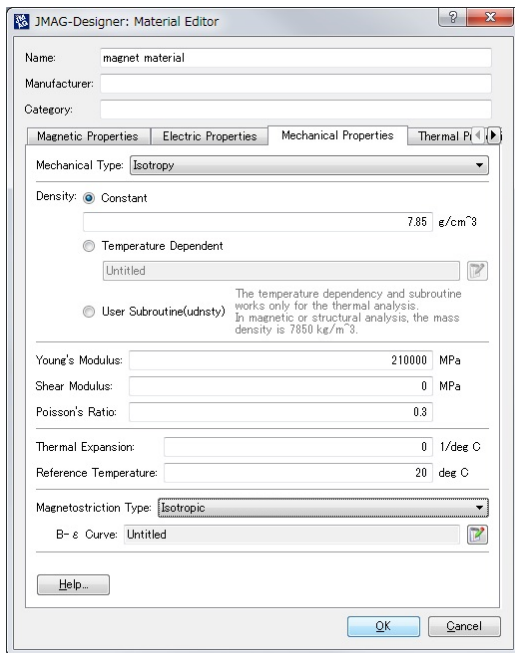

Fig. 4 Mechanical properties tab in the Materials Editor dialog box
Material properties used in structural analysis are density (g/cm³), Young's Modulus (MPa), Shear Modulus (MPa) and Poisson's Ratio. With isotropic material, Young's Modulus, Shear Modulus and Poisson's Ratio establish the relationship in Formula (1). Consequently, setting just two objects that are not isotropic materials will suffice. Normally, you would set Young's Modulus and Poisson's Ratio (Fig. 4).